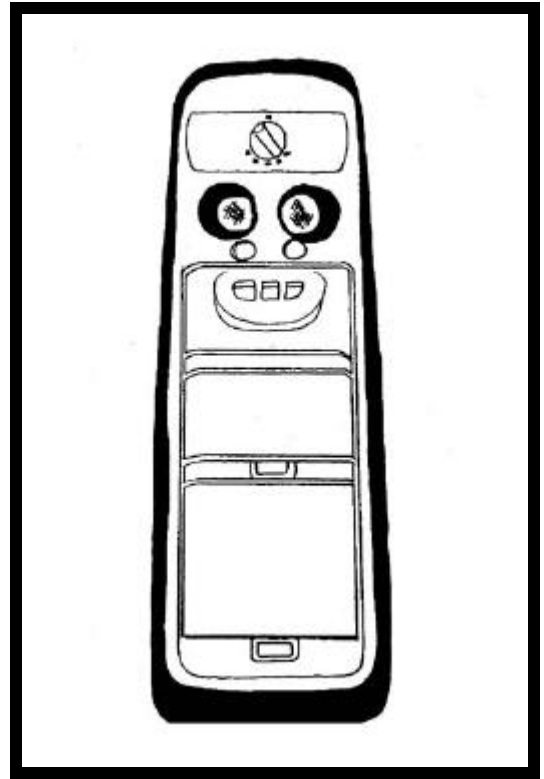

FIGURE 1
1. Remove the O.E.M. compartment console currently mounted to inner roof of vehicle. Remove (1) one # 8 X 1 3/4" screw from recess in front of console near rear view mirror. Pull front of O.E.M. console down to access wiring. Disconnect all wiring from console. Pull console forward to release rear retainers from inner roof recess near center of vehicle. Remove console and lay it in a safe place. See Figure 1.